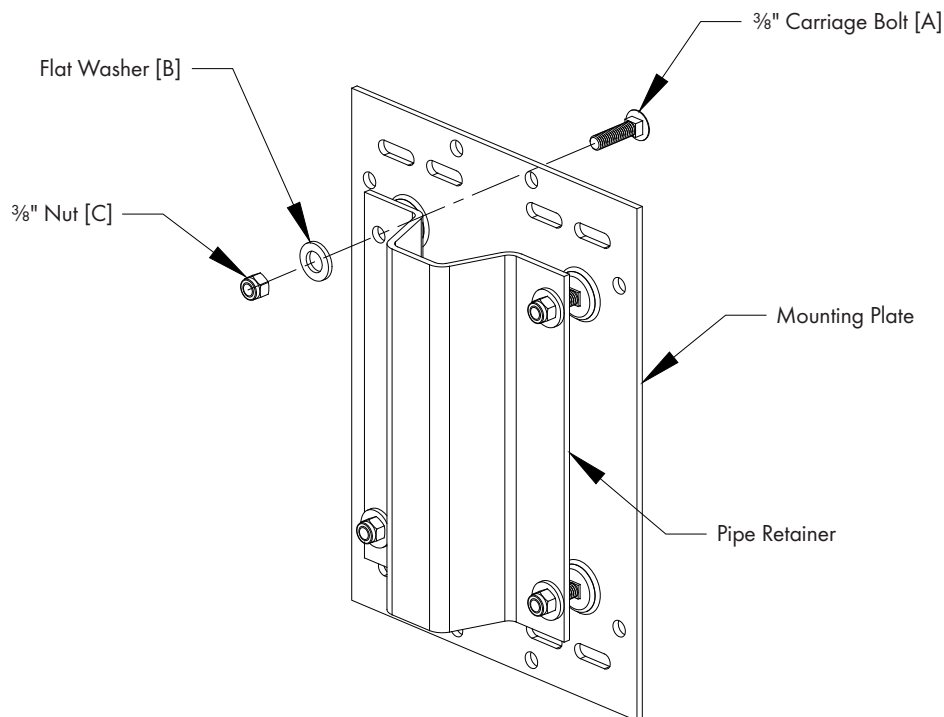

Figure 4
Attach Pipe Retainer to Mounting Plate using (4) Carriage Bolts [A], (4) Flat Washers [B], and (4) Nylock Nuts [C]. Thread nut on so it is flush with end of bolt. See Figure 4.